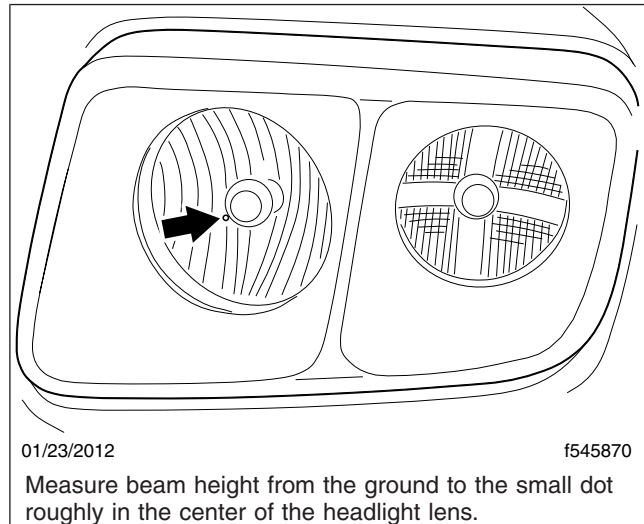

Fig. 22.1, Headlight Beam Height Adjusting Dot
2. Each headlight has a height adjusting dot. See Fig. 22.1. Measure the distance from the ground to the height adjusting dot on each headlight (Fig. 22.2, Item A). Note those distances.